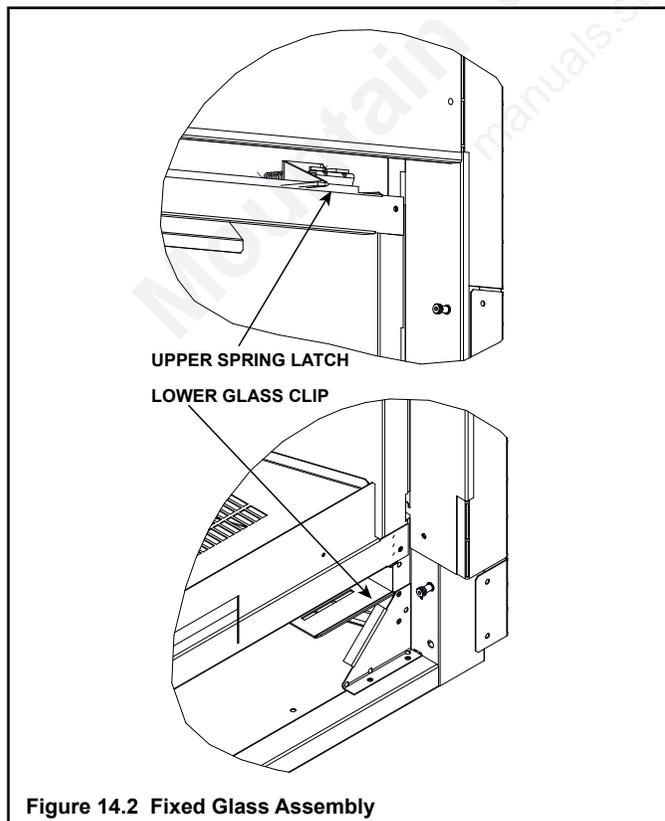

Figure 14.2 Fixed Glass Assembly
3. Use both index fingers to release spring latches. See Figure 14.2.
4. Put pressure on the glass as you allow the glass assembly to drop into the two lower glass clips. See Figure 14.2.